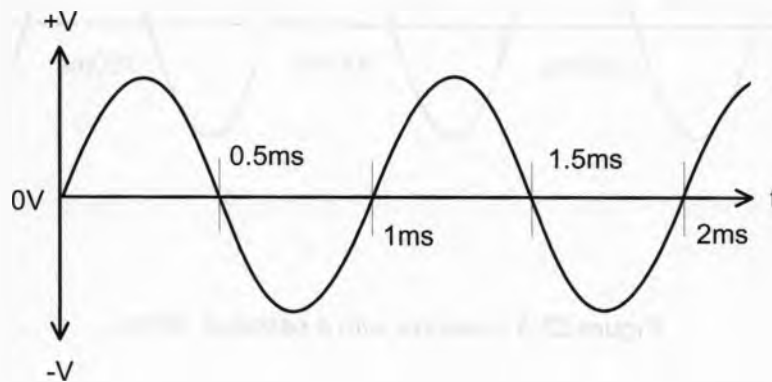

Figure 23
1. What is the frequency of the AC signal in Figure 23?